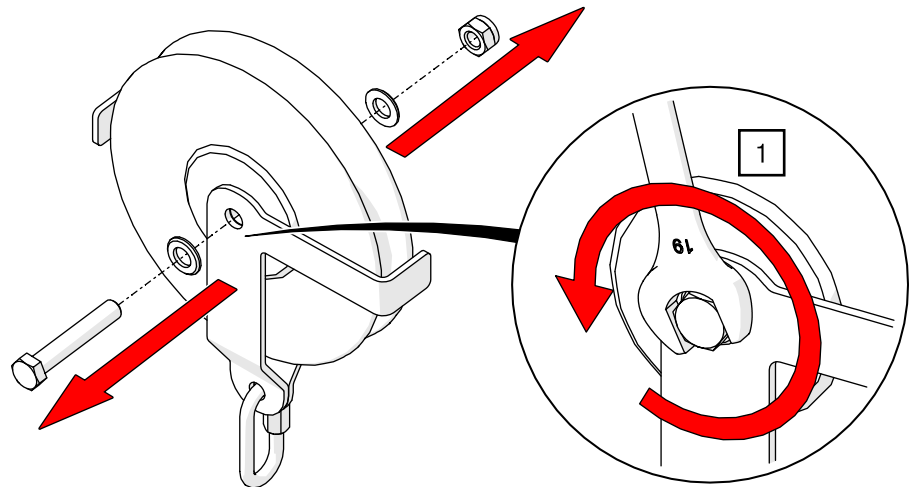

Fig. 124: Manual drive ROPE-DRIVE – Unscrew hemp rope sandbag pulley from housing
1. Loosen the roller from the housing by unscrewing the hexagon head screws with two open-end wrenches AF 19 and pull out the axle bolt (see Fig. 124).